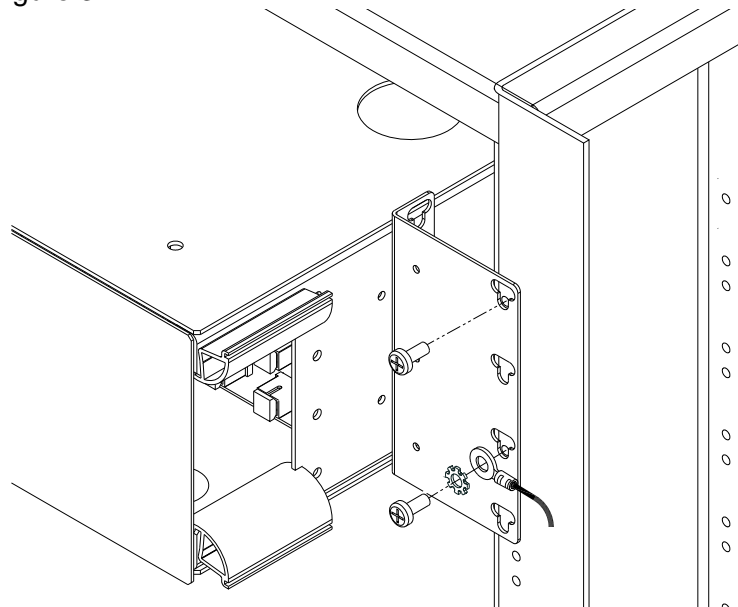

Figure 34 - Mounting LCX Panel to Rack
3. Mount each panel to rack using four, 12-24, thread-forming mounting screws (supplied, two per side). See Figure 34.